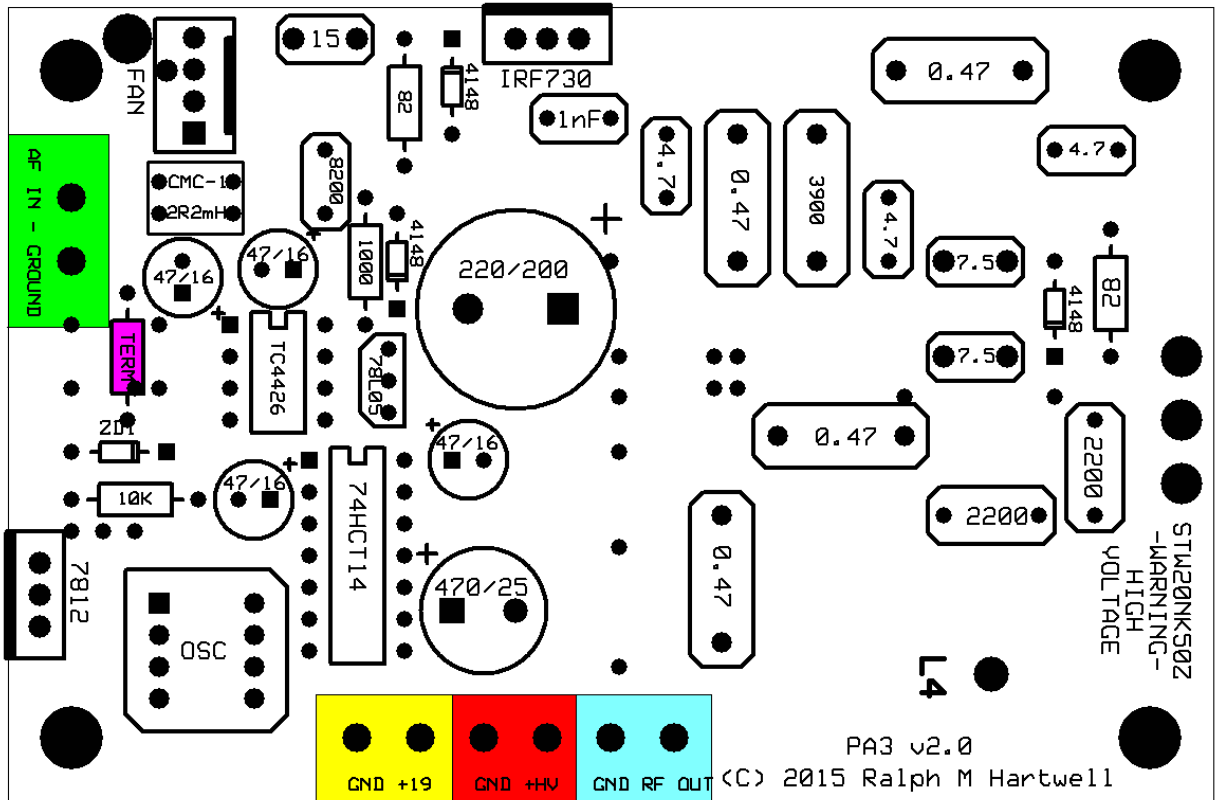

Figure 1
The following diagram (Figure 1) shows the relative position of the various connectors on the PA3. They have been color coded in Figure 1 for ease of identification. Note that the terminal blocks on the PA3 will usually all be the same color, either blue or green.
**Please refer to Figure 1 for the location of the following connections.**